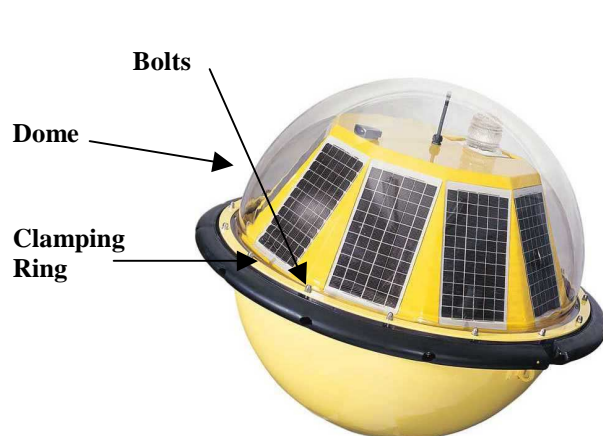

Figure 1
1. **Removal of the Dome and Clamping Ring.** Refer to **Section 7** of the TRIAXYS™ Manual: Remove the M8 washers and nuts, take off the Clamping Ring and remove the dome (Fig 1 & 2).